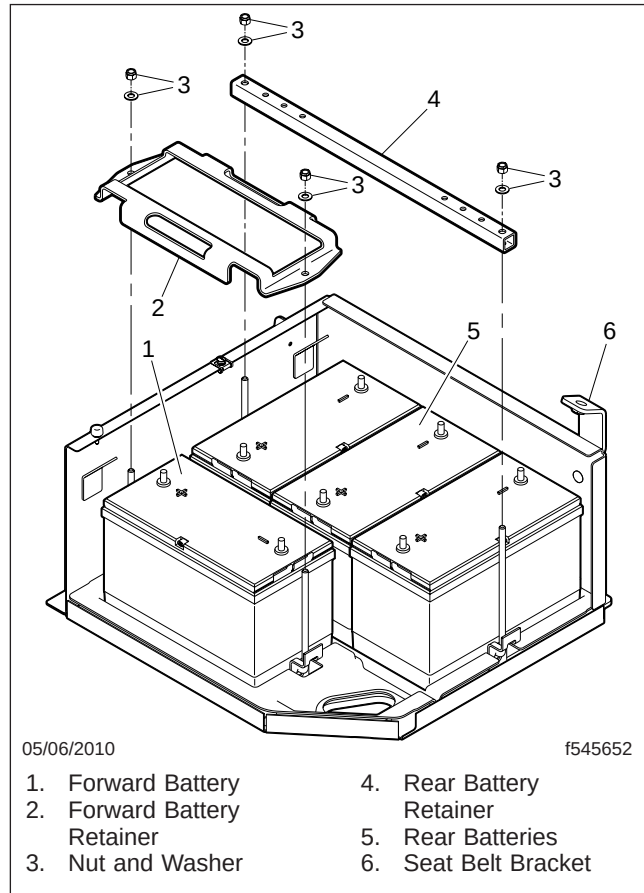

Fig. 9, Battery Retainers
6. Remove the forward and rear battery retainers. See Fig. 9.